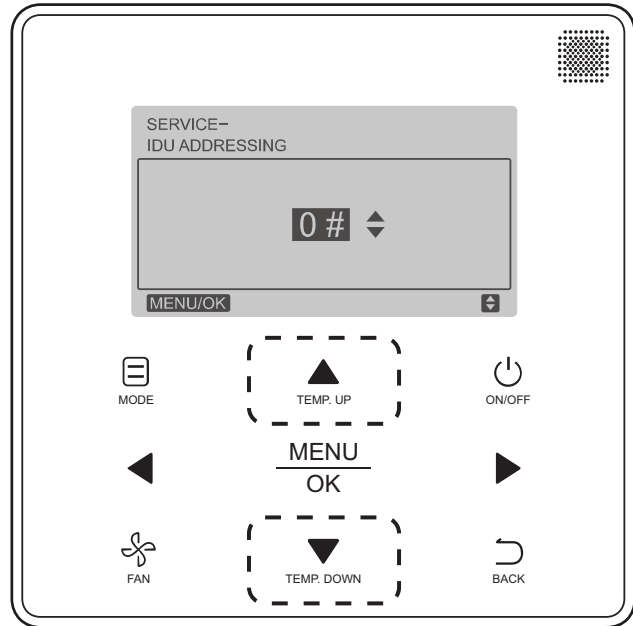

Fig. 30 —Programmable Controller Setting IDU Address
3. Press **TEMP. UP** or **TEMP. DOWN** to choose the address. See Fig. 30. Press **MENU/OK** to send this address to the IDU.